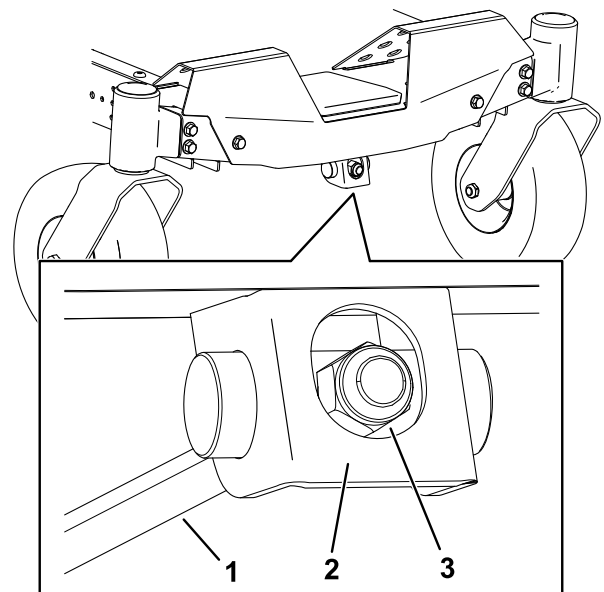

Figure 70
1. Rotate the adjustment nut in the front of the mower (Figure 70).